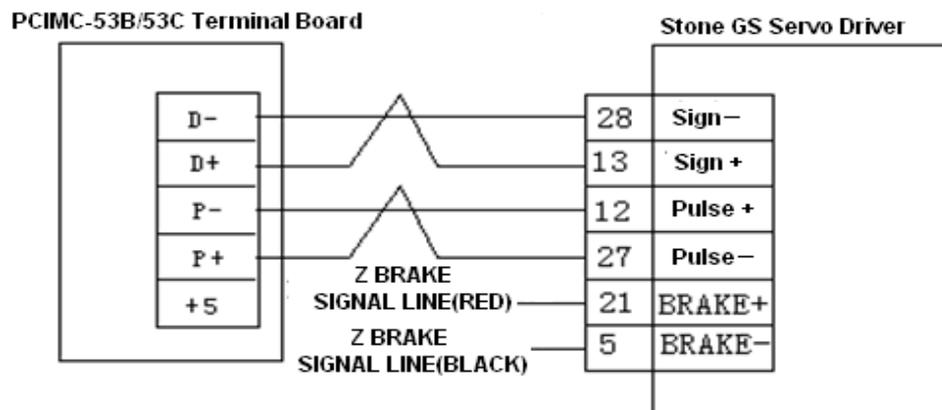

Fig. 4-17 Connection between Terminal Board EX1D and Stone GS Servo Driver
1) Wiring diagram of connection between terminal board EX1D and Stone GS servo driver is shown below in Fig. 4-17.